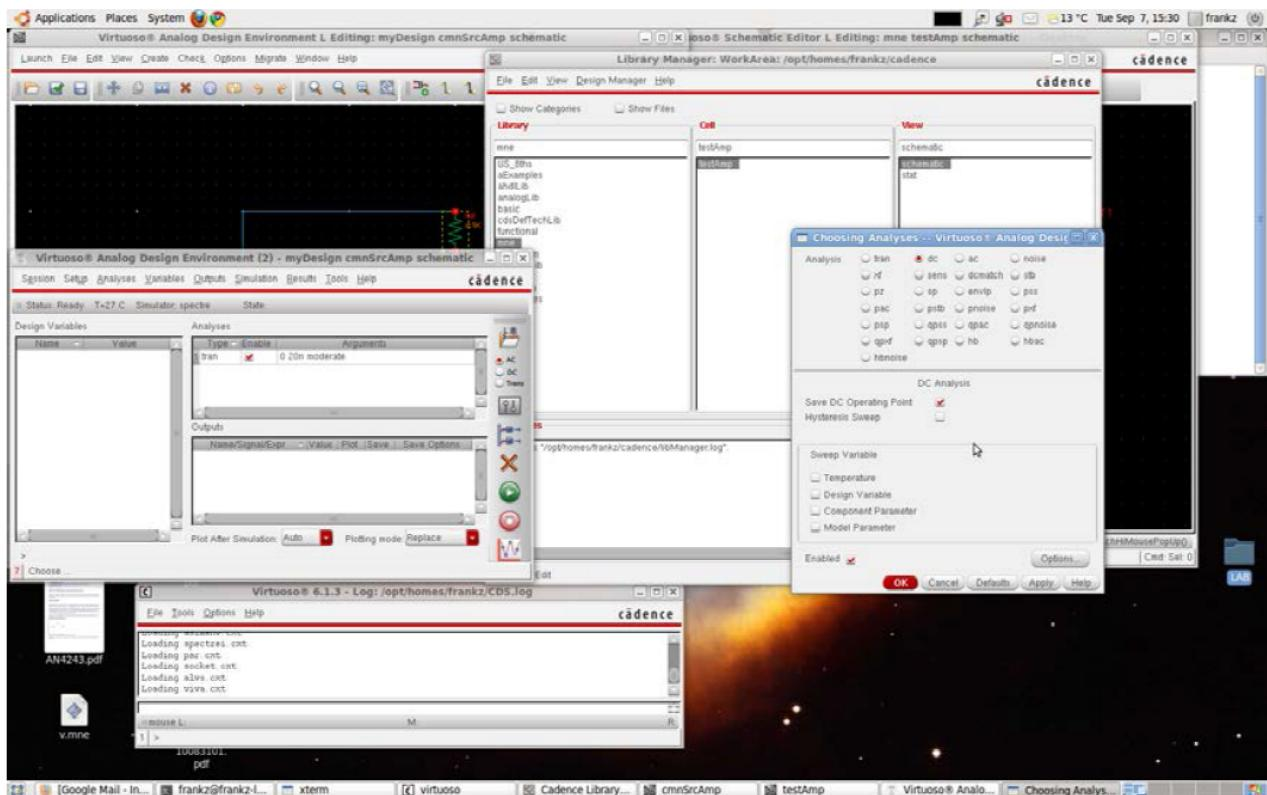

Figure 10: Adding DC analyses
- Step 12: Choose DC and transient analysis - In the ADE window, click *Analyses* → *Choose*. This will prompt you to *Choosing Analyses* window shown in Figures 10 and 11. Select the DC/TRansient analyses and fill the simulation parameters as shown in Figures 10 and 11.